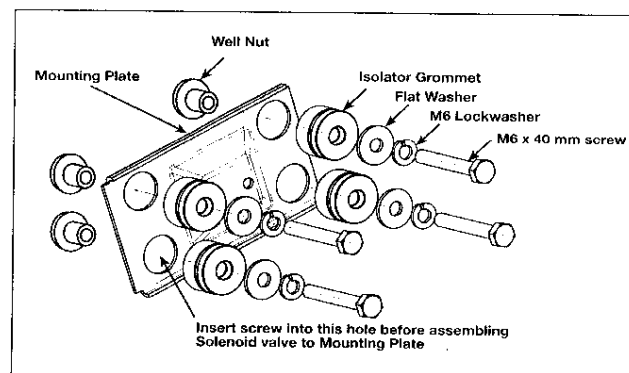

Fig. 10
- Insert the isolator grommets and inserts into the large holes in the Solenoid Mounting Plate as indicated in Figure 10.
- Note the orientation of the mounting plate in Figure 10. The distance from the end of the plate to the raised area in the center of the plate is greater on one side than the other. The side with the greater distance is the left side of the plate when the raised portion is facing toward you (when installed, this side points toward the passenger side of the vehicle). Holding the plate in this orientation, insert one M6 x 40 mm screw, washer, and lockwasher into the isolator grommet in the lower left corner of the plate. See Figure 10 for correct orientation of these attaching parts.